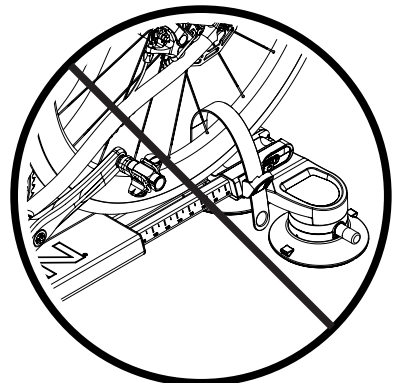

FIGURE 9
**IMPORTANT:** Do Not Mount the Rear Wheel in between the Red Extension Bars (Figure 9)